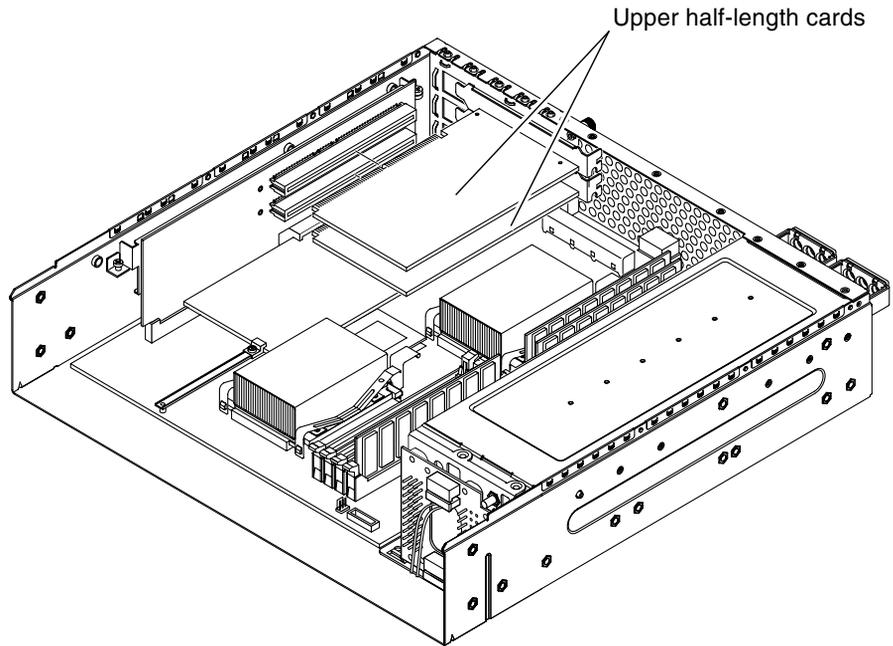
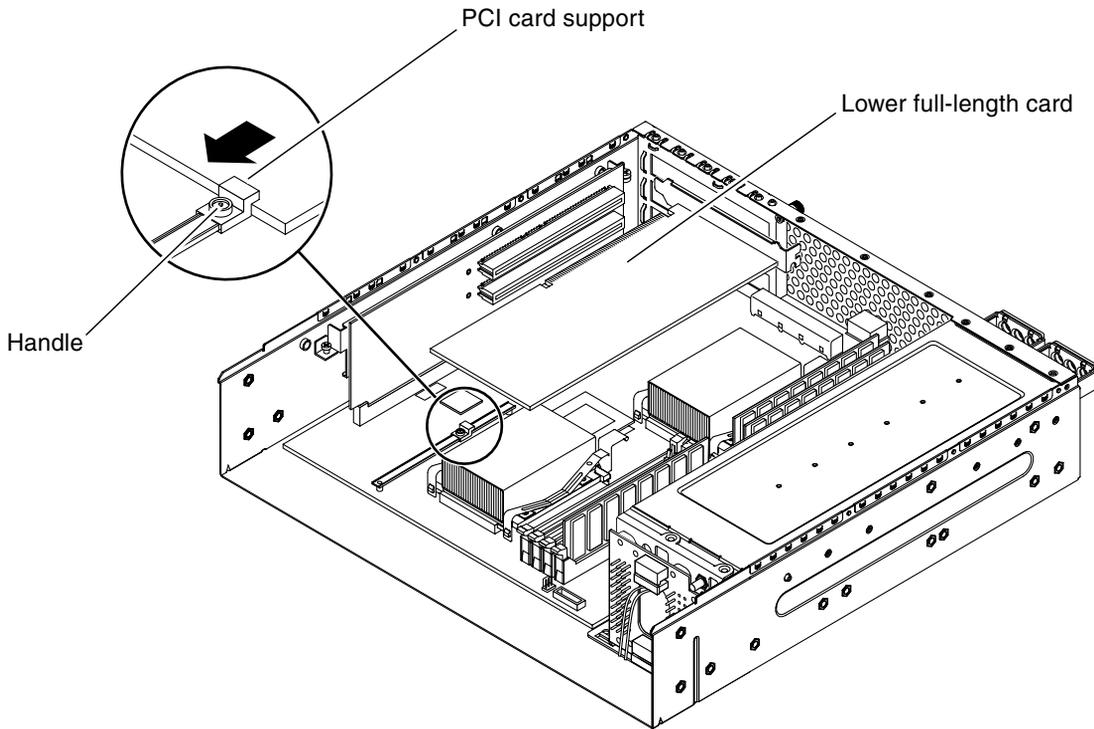

FIGURE 5-6 Removing and Installing the Upper Half-Length PCI Cards
FIGURE 5-7 Removing and Installing the Lower Full-Length PCI Card
- If you are removing one of the two half-length PCI cards installed in the upper positions (PCI1 or PCI2), unseat the PCI card from the connector and lift it out of the server (FIGURE 5-6).
- a. Pull up on the handle for the PCI card support and slide the support clear of the PCI card (FIGURE 5-7).
- b. Unseat the PCI card from the connector and lift it out of the server (FIGURE 5-7).
FIGURE 5-6 shows the slots for the upper half-length PCI cards, and FIGURE 5-7 shows the slots for the lower full-length PCI card.
3. **If you are installing the lower full-length PCI card, pull up on the handle for the PCI card support and slide the PCI card support completely against the PCI card (FIGURE 5-7).**